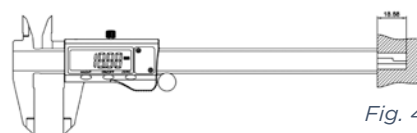

Fig. 4
- C. Measurement of depth (Fig. 4).